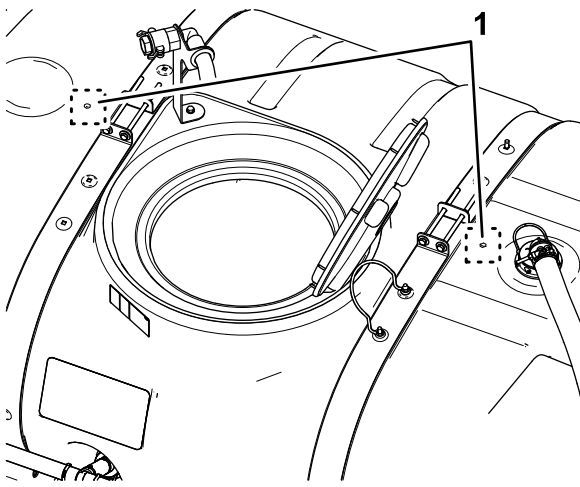

Figure 17
- 2. Locate the 2 drill marks in the main tank (Figure 17).